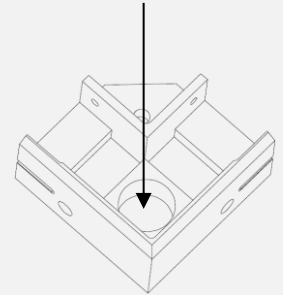

fig. 10b
- Corner connector hole (item K1) (fig. 10b)